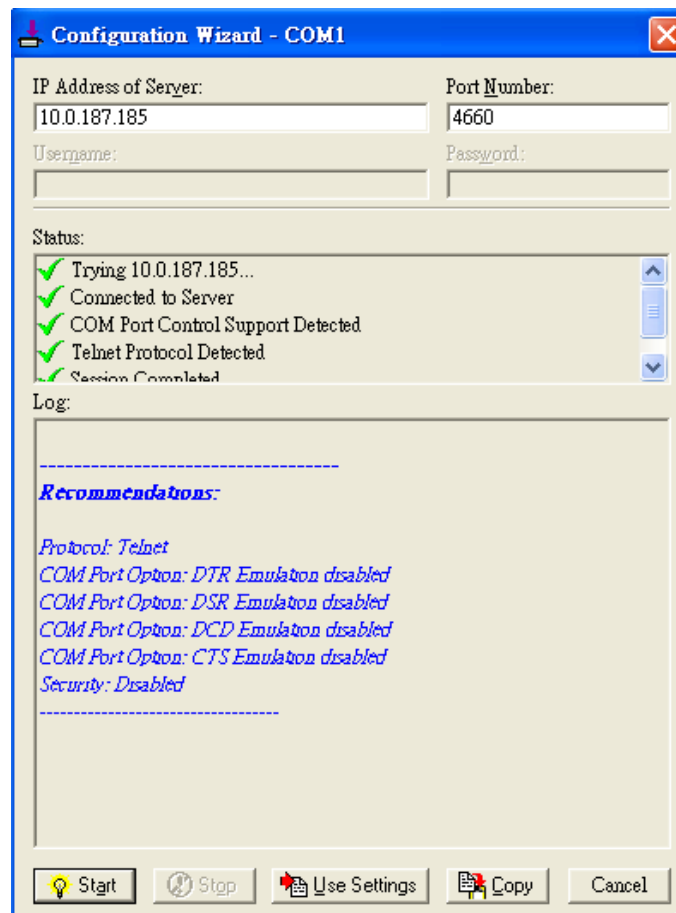

Figure 6.10 Auto Configure (formerly Configuration Wizard) Window for COM 1
5. To test the Virtual COM connection, you can click the **Auto Configure...** button and then click the **Start** button in the pop-up window as shown in Figure 6.10. If the test passes, all checks under the **Status** text box should be green. In this **Configuration Wizard** window, you can change the **IP Address** of Server, **Port Number**, **Username** (if **Use Credential** option is enabled), and **Password** (if **Use Credential** option is enabled). To apply the changes in the Configuration Wizard window to the Serial/IP Control Panel, please click on **Use Settings** button at the bottom of the window in Figure 6.10. You can also click on **Copy** button to copy the results to the PC system clipboard.